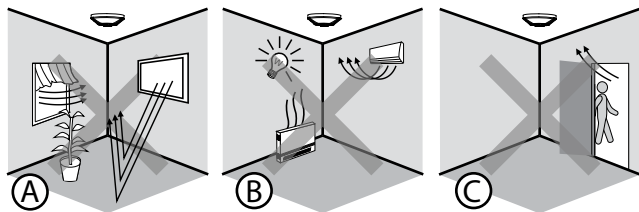

Figure 4. Locations that should be avoided
Locations to avoid are shown in Figure 4. Since the sensor responds to temperature, airflow and wind change, please avoid (A) aiming the sensor toward objects which may sway, such as curtains, tall plants and highly reflective objects such as mirrors. (B) Avoid placing the sensor near sources of heat or bright lights or (C) in drafty areas such as doorways.